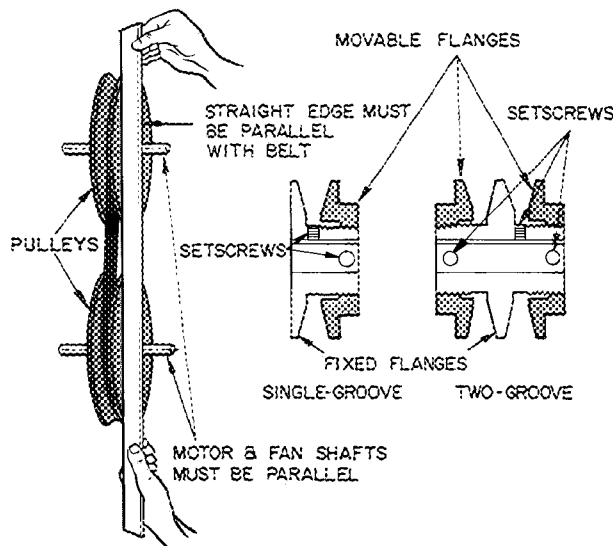

Fig. 25 — Indoor Air Fan Pulley Adjustment and Alignment
3. Loosen movable pulley flange setscrew (016,024). See Fig. 25.
Align shafts by loosening motor on mounting bracket if required. Then loosen fan pulley set-screws, slide pulley along fan shaft and align with straightedge as shown in Fig. 25.